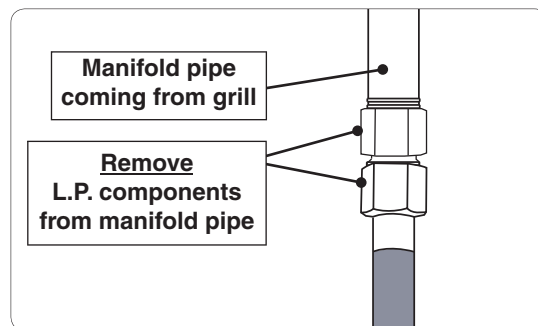

Fig. 2-1 Remove L.P. components
2. Remove the L.P. tank, regulator hose, and adapter attached to the manifold pipe located inside the grill cabinet (see Fig. 2-1).